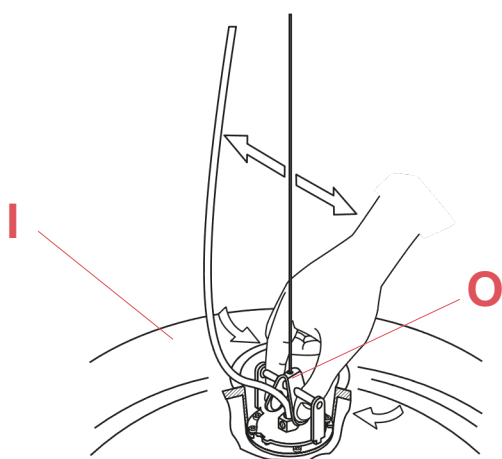

Fig.7
- To balance the diffuser (I), act on the spring (O).(Fig.7)